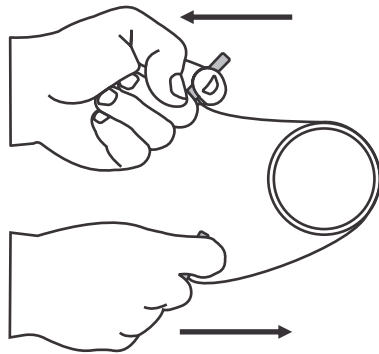

Fig. 15
- 4 - Using a hacksaw, PVC cutter or a cable saw, cut the pipe at the marks made.** If using a cable saw, carefully line the saw blade up with the marks that were made in the previous step and begin cutting using an alternating pulling/releasing motion (see Fig. 15). Once successfully cut away, discard the detached portion of plumbing.